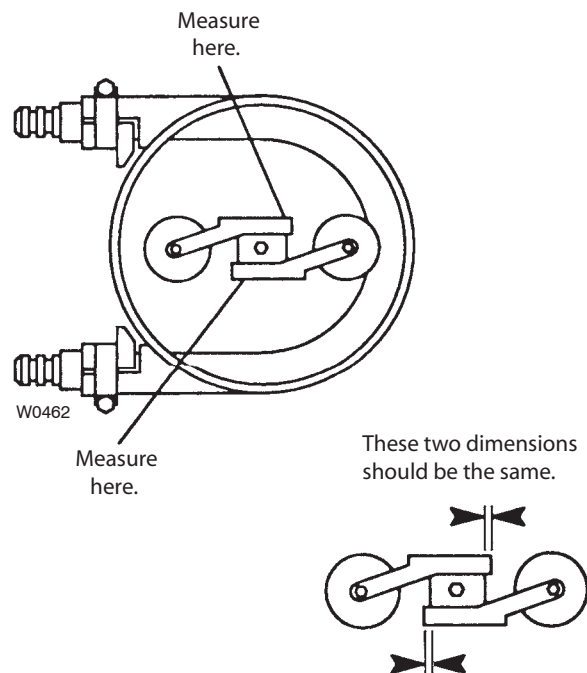

Figure 8
- b. See Figure 8. If not enough vacuum, gradually move rollers forward in 1/32 to 1/8 in. (0.8 to 3.0 mm) increments and repeat test until suction seems to be correct. (Make sure compression is same for both rollers by measuring roller bracket in relation to rectangular rotor block).